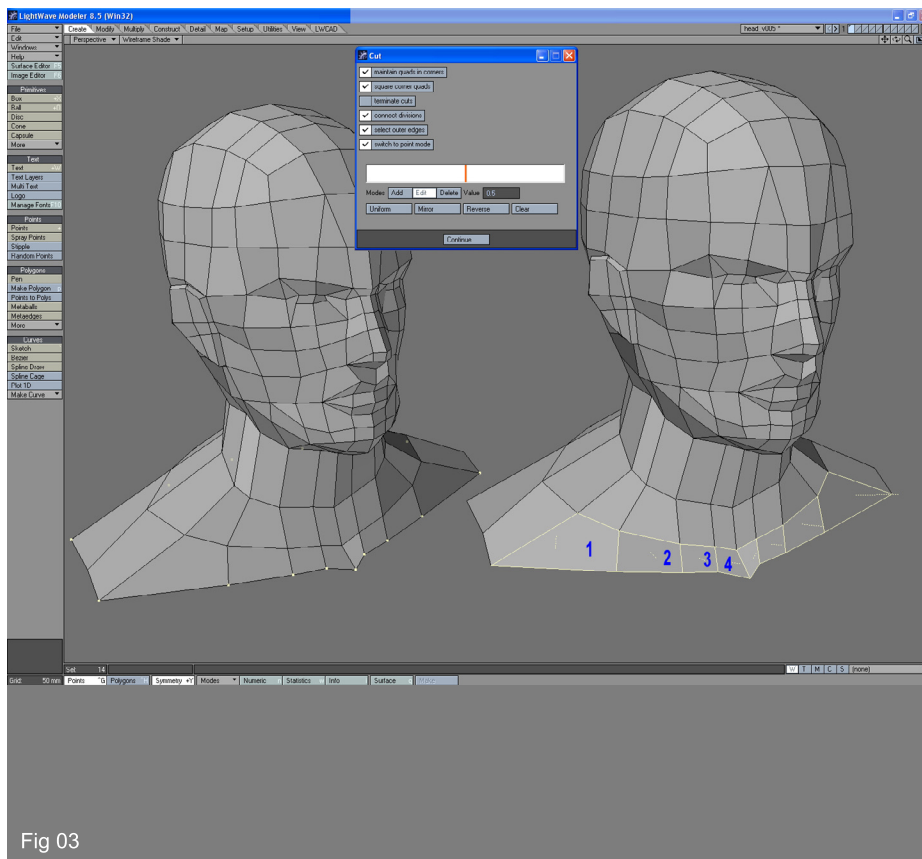

Fig 03
3. Extend once more like in previous steps and drag to adjust the shape of the model. Now select the polygons in order shown in the image (make sure Symmetry mode is still on) and apply the Cut tool from Multiply-Subdivide. Leave it at its default values and hit ok. Weld the two pairs of end points made by the Cut to avoid a 5-sided polygons at the shoulder tops (Fig03).